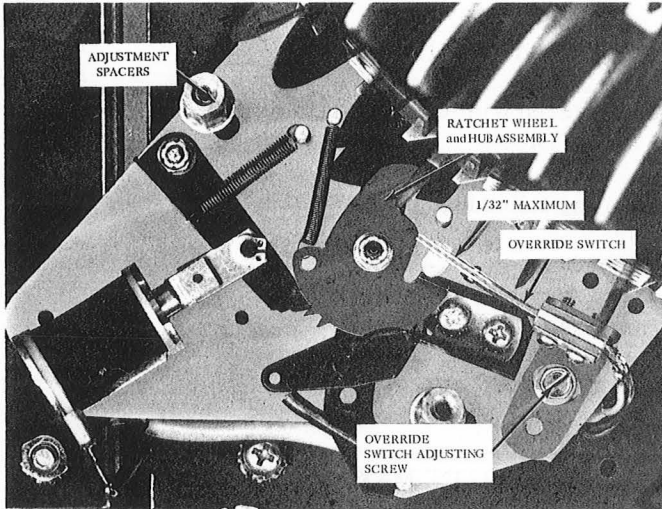
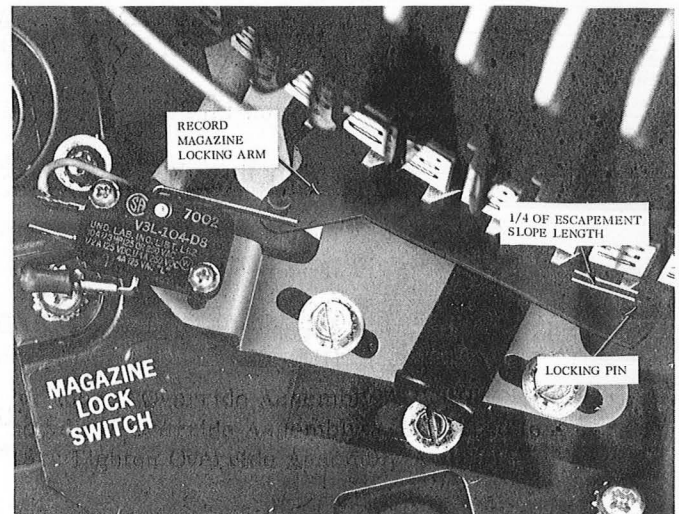

FIGURE 1
FIGURE 4
4. Verify that OVERRIDE SWITCH is open with 1/32" MAXIMUM clearance between contacts as shown in Figure 1.
13. Firmly grasp RECORD MAGAZINE and continue to slowly rotate RECORD MAGAZINE until Override Cam on Magazine Drive Arm passes Override Hub and resets RATCHET LEVER and HUB ASSEMBLY escapement as shown in Figure 1 and that LOCKING PIN of RECORD MAGAZINE LOCKING ARM engages proper escapement of RECORD MAGAZINE PLATE 1/4 of escapement slope length from top of escapement as shown in Figure 4.
14. Should adjustment be necessary, loosen Override Assembly ADJUSTMENT SPACERS (refer to figure 1) and adjust Override Assembly as required to meet the requirement of Step 13. Tighten Override Assembly ADJUSTMENT SPACERS.